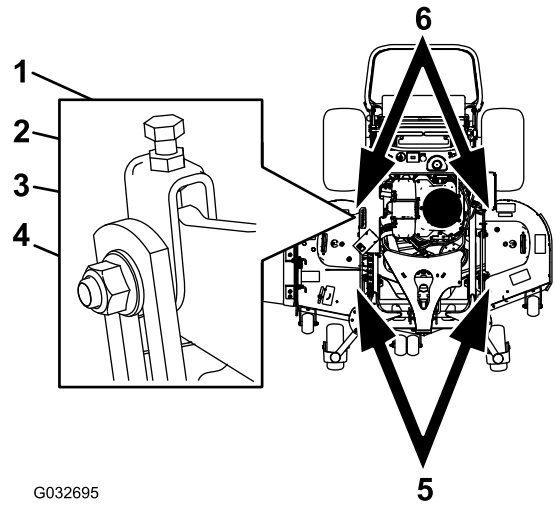

Figure 92
- Loosen the jam nut and side bolt in the yokes that you want to adjust (Figure 92).
- Rotate the top bolt of the yokes to adjust the height of the mower deck (Figure 92).
5. If the measurement is not correct, locate the front 2 yokes on the machine (Figure 92).